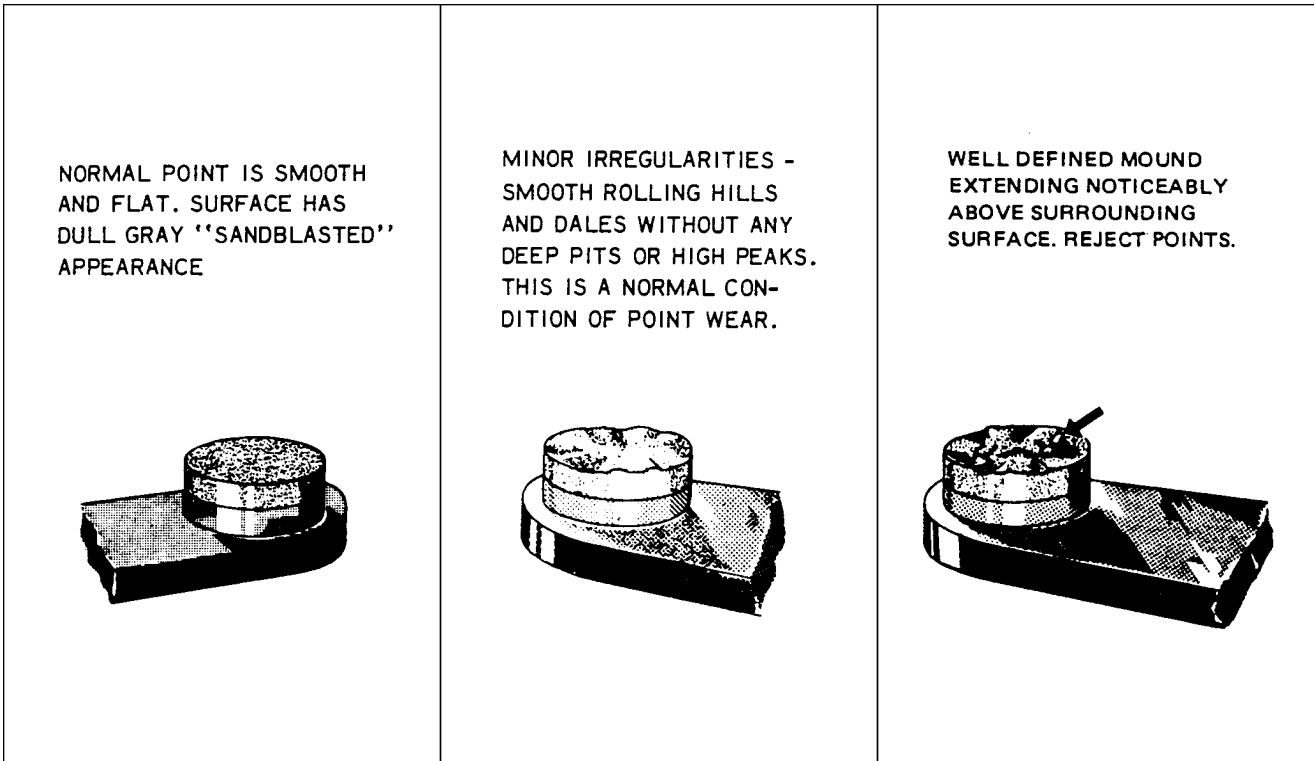

Figure 74-2. Contact Points
6. Examine contact points for excessive wear or burning. (Refer to figure 74-2.)
The desired contact surface has a dull gray, sand-blasted (almost rough) or frosted appearance. This shows that points are worn in and mated to each other, providing the best possible electrical contact and most efficient performance. Minor irregularities or roughness of point surfaces are not harmful. (Refer to figure 74-2, center.) If there is a possibility of pit becoming deep enough to penetrate pad (refer to figure 74-2, right), reject contact assembly.